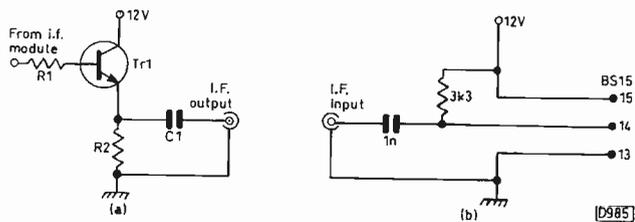

Fig. 3: Buffer circuit used in the TV set (a) and the modifications at the input to the panel (b).
stage, see Fig. 3(a). This has to be fitted before the 6MHz intercarrier sound trap. Even in sets that are not designed for Nicam reception there's usually sufficient 6.552MHz carrier present at this point. In the Ferguson TX9 chassis the most suitable point to add the buffer stage is at pin 6 of the i.f. module – this takes the output from pin 12 of the TDA2540
- (1) Replace filter LS01 with a 6.552MHz one.
- (2) Replace crystal QS02 with a 6.552MHz one.
- (3) Add a 3.3k Ω resistor and a 1nF capacitor as shown in Fig. 3(b).